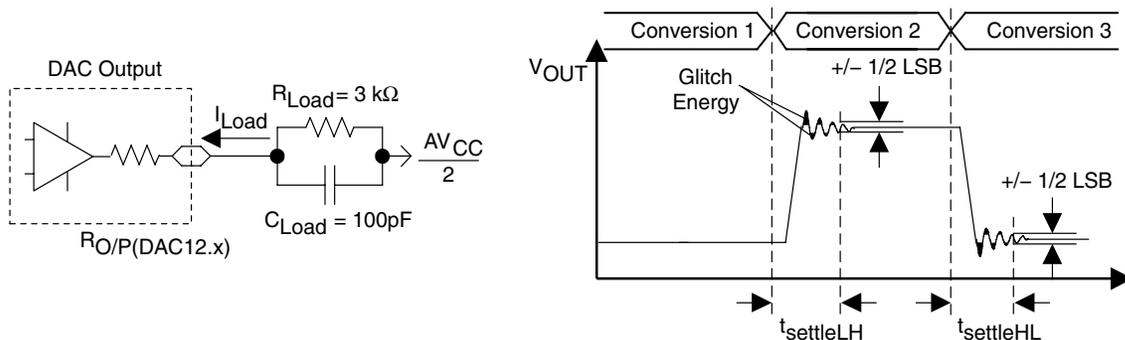
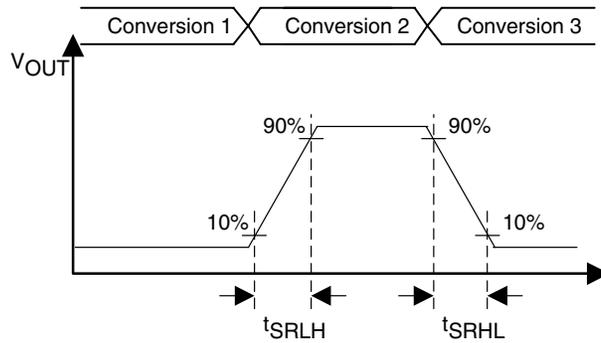

Figure 16. Settling Time and Glitch Energy Testing
Figure 17. Slew Rate Testing
12-bit DAC, dynamic specifications; V_{REF,DAC12} = AV_{CC}, DAC12IR = 1 (see Figure 16 and Figure 17)
- NOTES: 1. R_{Load} and C_{Load} connected to AV_{SS} (not AV_{CC}/2) in Figure 16.